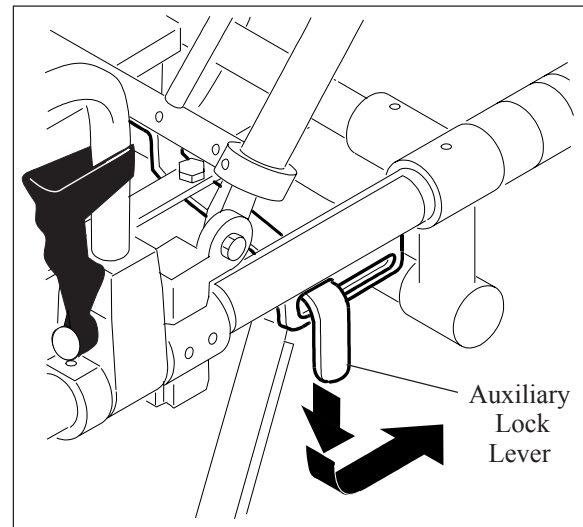

Figure 2 - Disengaging the Auxiliary Lock
2. Move lock lever down and toward head end of cot until it stops (Figure 2).